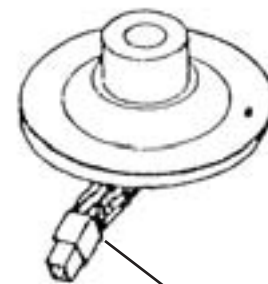

FIG. 3
4. After you have preset the code selectors, insert the terminal connector from the fan motor into the terminal connector inside the receiver (Fig.3). The terminal plug can only be inserted one way to prevent improper connection.
5. Insert the antenna wire through one of the small holes in the switch housing hub. (Fig. 3) For best reception of the transmitter's signal the antenna should be fully extended outside of the switch housing.